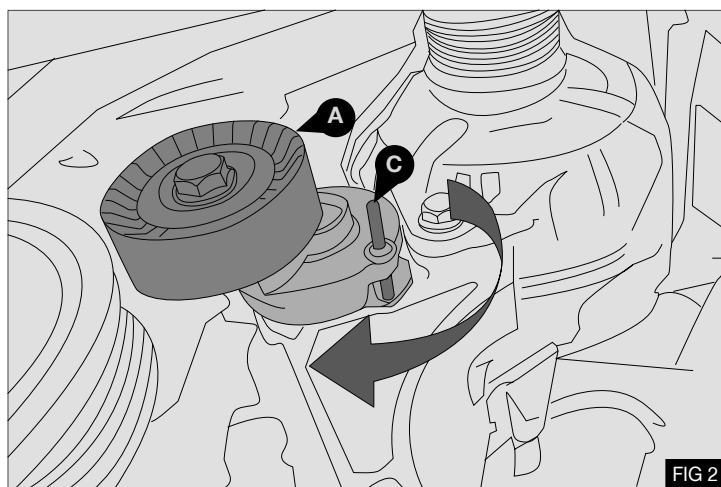

FIG 2
2. Using a suitable tool rotate the automatic belt tensioner pulley (A) in a clockwise direction and insert a suitable 4mm pin, an Allen key is ideal for this purpose (C) - Fig.2
2. Release the automatic belt tensioner (A) and remove the securing pin (C) - Fig.2